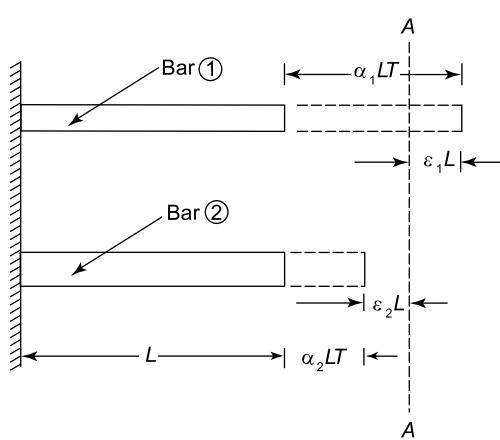

Figure 2.13 'Deflections' of compound bar
There are two unknown forces in these bars, namely F_1 and F_2 ; therefore, two simultaneous equations will be required to determine these unknown forces. The first equation can be obtained by considering the compatibility (i.e. 'deflections') of the bars, with the aid of Figure 2.13.
In practice, however, the final resting position of the compound bar will be somewhere in between these two positions (i.e. at the position A–A in Figure 2.13). To achieve this, it will be necessary for bar (2) to be pulled out by a distance $\varepsilon_2 L$ and for bar (2) to be pushed in by a distance $\varepsilon_1 L$, where
From considerations of compatibility ('deflection') in Figure 2.13,